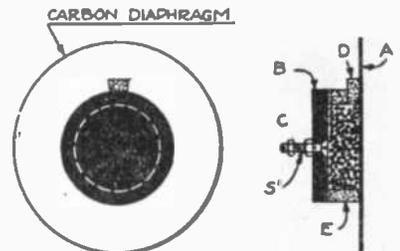
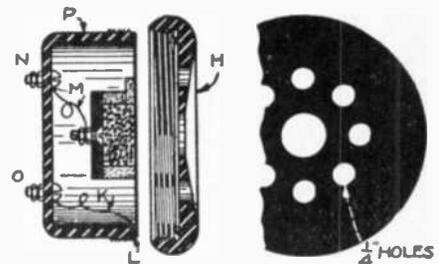
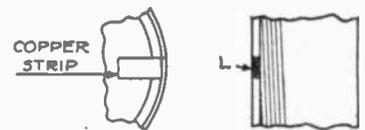
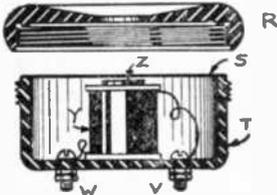

FIG 1
FIG 2
FIG 3
FIG 4
Another good way to straighten wire is to use a single nail, which is usually handy when using the wire. This is shown in Fig. 2. The wire simply passes around the nail, one hand being used to
The transmitter is highly sensitive. The shell of a watchcase receiver makes an excellent outer case as shown at (P), Fig. 3. For the interior mechanism we need a thin carbon diaphragm (A), Figs. 1, 2, 3, preferably standard size, 2 1/8 inches wide and 1/64 inch thick. A felt washer (E) 1 1/4 inches in diameter with walls 3/16 inch square should be made with an opening (X) 3/16 inch wide. Glue the washer to the center of the carbon diaphragm.
phragm. Countersink the hole a little on one side so that when a 1/4-inch bolt, 1/2 inch long, and a nut are bolted on this button, the head of the bolt will not touch the first carbon diaphragm (A), Fig. 2. The smaller carbon diaphragm can be easily made with a hacksaw and the hole bored with an iron bit.
It is better to insulate the head of the bolts by dipping it in shellac. The carbon button must now be glued to the felt washer with the head of the bolt and the beveled side of the carbon inside, see Fig. 2. After the glue is dry, the chamber
A piece of paper bent to a scoop will simplify the filling of the chamber. The openings between the ends of the washer must be plugged with a piece of felt (D), Figs. 1 and 2. This can be done with a pin or sharp pointed knife.
The binding posts (N) and (O), Fig. 2, are fastened on the bottom of the transmitter case. The connection from one of the binding posts to the carbon diaphragm should be made with very thin copper or brass strips, 3/8 inch wide and about 1 1/2 inches long as shown at (K), Fig. 3. The copper strip is bent over the edge of the shell and cut off flush at the edge of the rim (L), Fig. 3.
The other terminal (N) should be connected by three No. 28 insulated copper wires to the terminal (C) of the carbon button. The three small wires have more flexibility than one large one. The carbon diaphragm should now be put in place, and a receiver cap screwed on the transmitter as shown in Fig. 3. The transmitter will be more sensitive if a number of 1/4-inch holes are bored in the cap as shown in Fig. 4.
FIRST a pair of wooden candlesticks were procured and wired as shown in Fig. 1, the wires ending in contact points spaced as far apart as possible in the socket of the candlestick. Next a pair of candles. Each had two wires run up their length and bent to form a small gap at the base of the wick. The wires were introduced by being heated, so as to melt their way through. These wires were bare and so placed as to make a contact
magnet. Then a coil of No. 24 wire is wound upon the base of a ten watt thirty volt lamp. The construction of this coil is shown clearly in Fig. 2. The composition into which the finished coil should be dipped is taken from old dry cells.